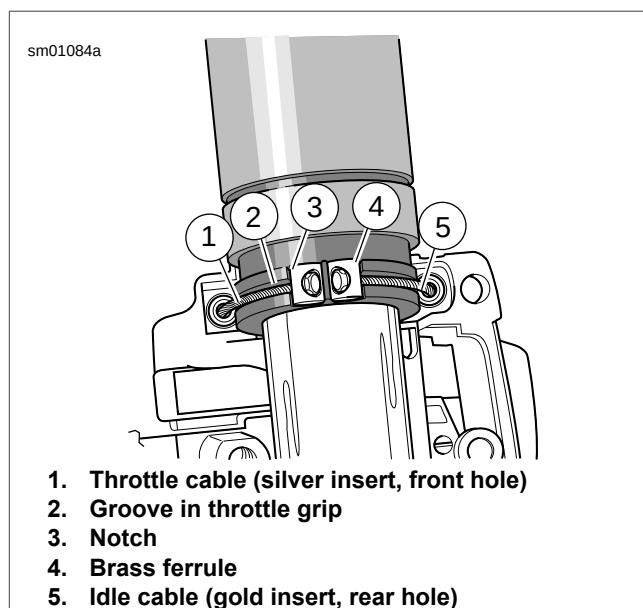

Figure 2-86. Throttle Cable Attachment
5. See Figure 2-86. Pull the cables from the housing by placing a drop of oil on the retaining ring that holds the cable in the housing, then firmly pull the bent tubing portion of the cable out of the housing using a rocking motion.
2. See Figure 2-86. Attach the control cable assemblies to the lower housing.
- a. Push the silver insert of the throttle cable (1) housing into the hole in front of the tension adjuster screw.
- b. Push the gold diameter insert of the idle cable (5) housing into the hole at the rear of the tension adjuster screw.